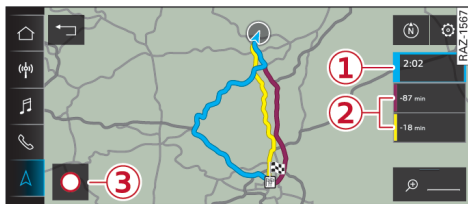

Fig. 142 Alternative routes in the overview map
- **To exclude a route:** Press ③ ⇒ *Fig. 142*.
- Press on ① in the corresponding information window, or
- Press and hold the information window for the corresponding alternative route (e.g. ②) ⇒ *Fig. 142*.